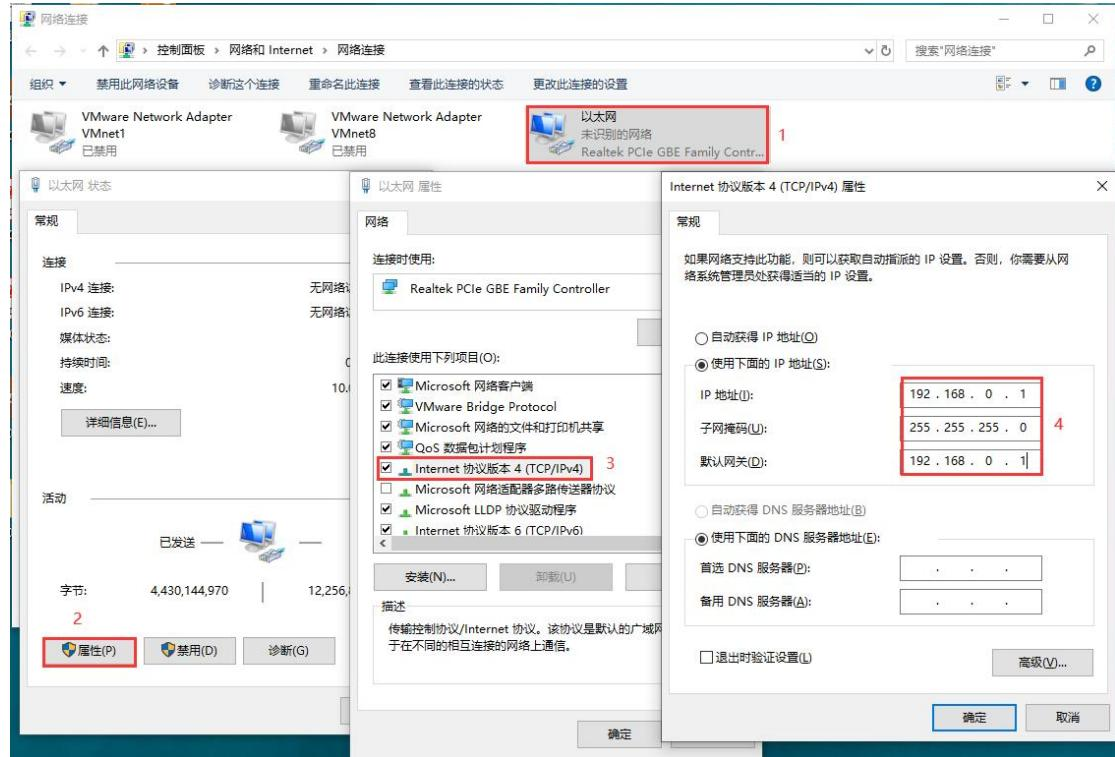

Figure 6-2 Computer IP Setting Interface in Firmware Upgrade Mode
(1) Set the CFG pin to a low level at power-up to enter the firmware upgrade mode. At this time, the RX \_ LED and TX \_ LED are interleaved. Substitute scintillation;
(2) Set the computer IP to 192.168.0.1 (or any IP address in the same network segment except 192.168.0.10). As shown in Figure 6-2.